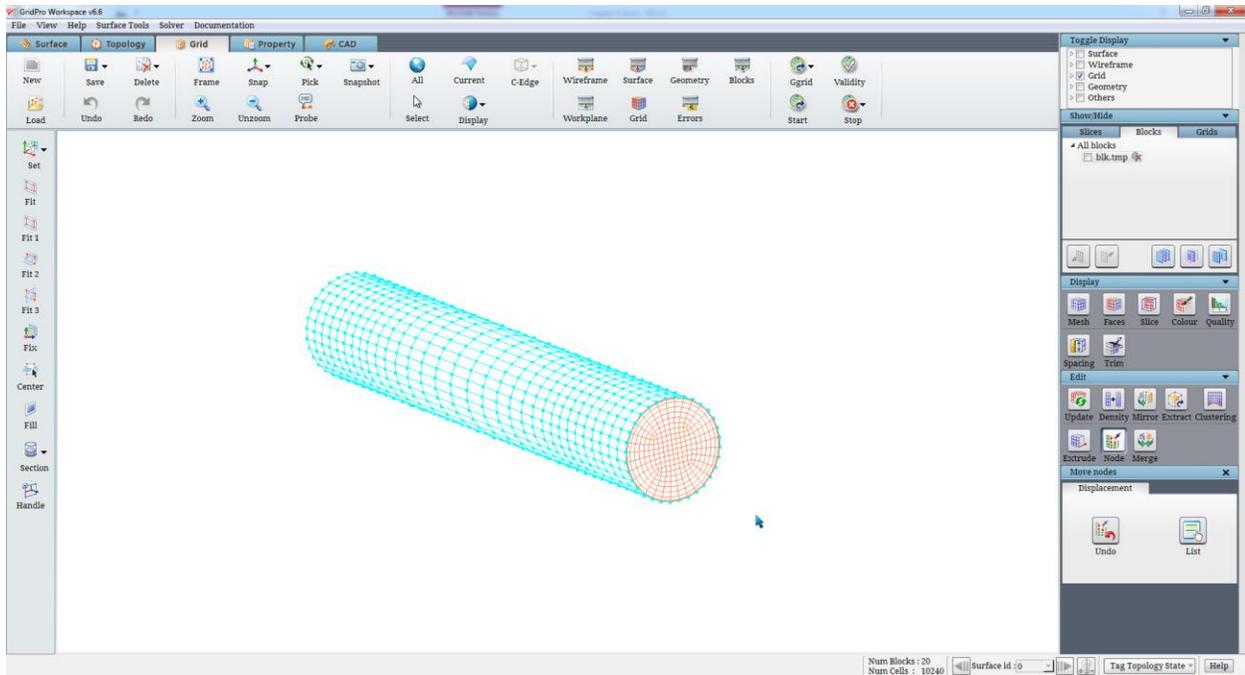

Figure 5.45: Node dialog box
**Node** button helps in improving the quality of the grid by moving the grid nodes. Many times you may end up having various singularities while building topology. Only the topology which is free of singularities output a grid without any folds. Resolving the singularities is a time-consuming process hence we came up with a tool which can move the nodes at grid level. Once you generate a grid with folds, create a cross-sectional sheet across it and move the nodes manually to the desired position such that it is not folded anymore. Clicking on the Node button will pop a dialog box and highlights the grid nodes of the current grid sheet which aids the cursor to move the desired nodes as shown in Figure 5.45.